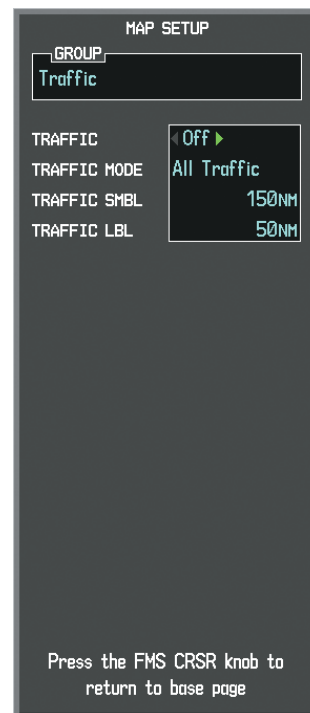

Figure 6-187 Navigation Map Page Setup Menu, Traffic Group
- 5) Turn the large **FMS** Knob or press the **ENT** Key to scroll through the selections (Figure 6-187).